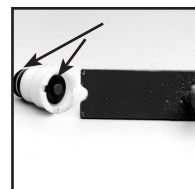

Figure 6.
7. The valve plates and O-rings can now be replaced. The bottom valve plate is secured into place with the red retaining pin. Push pin into place using needle nose pliers. Figure 6.